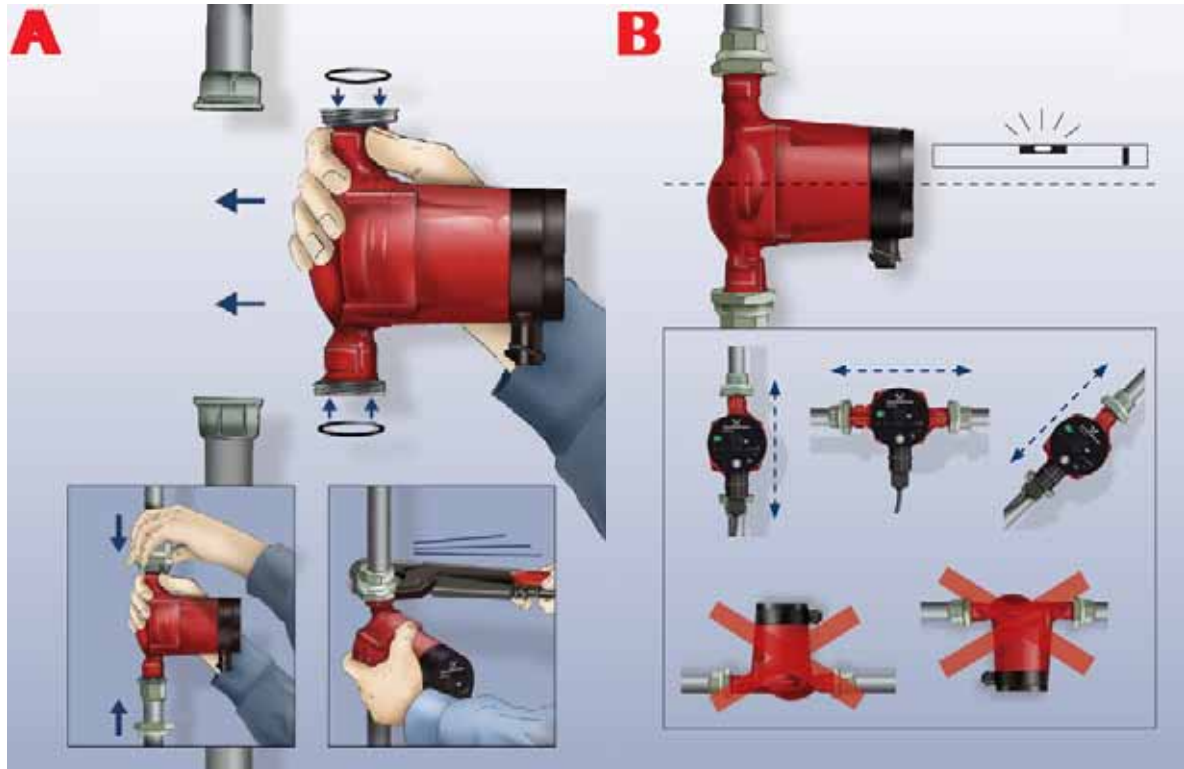

Fig. 3 Mounting the GRUNDFOS ALPHA2
1. Fit the two gaskets supplied when the pump is mounted in the pipe. See fig. 3, pos. A.
2. Install the pump with the motor shaft horizontal. See fig. 3, pos. B.